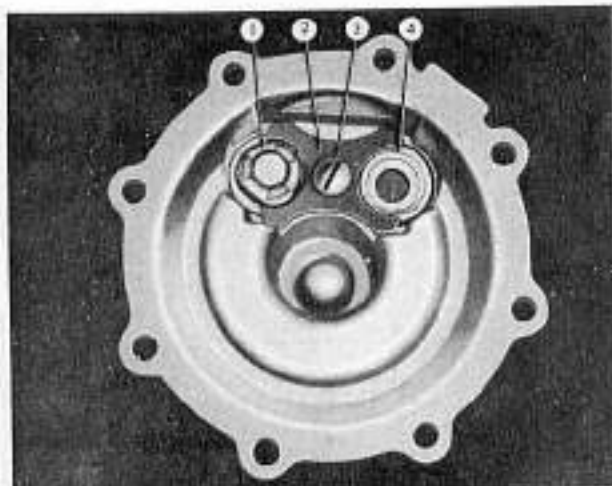

FIG. 393
Remove the vacuum section valve and the cage retainer screw (1, Fig. 393) and lift out the retainer (2), and inlet (1), and outlet (4) valve and cage assemblies, and two gaskets.
Place the two gaskets and the two valve and cage assemblies in the vacuum cover. The inlet valve (1, Fig. 393) must have the 3-legged spider facing out of the cover. The outlet valve (4) must have 3-legged spider facing into the cover. Secure the valve and cages with the retainer (2) and screw (3).